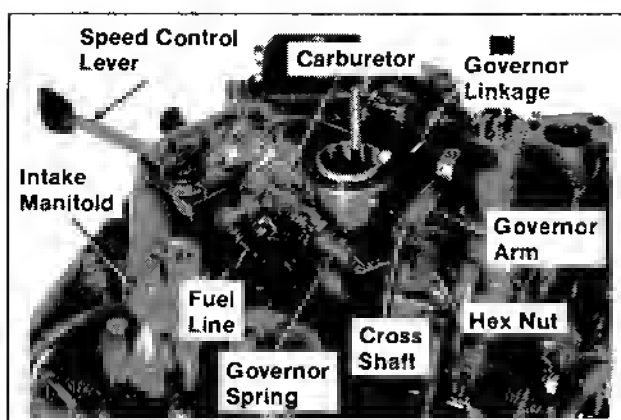

Figure 11-48. Installing Intake Manifold, Carburetor, and Governor Arm.
5. Install the fuel line and hose clamp to fuel pump outlet. Refer to Figure 11-48.